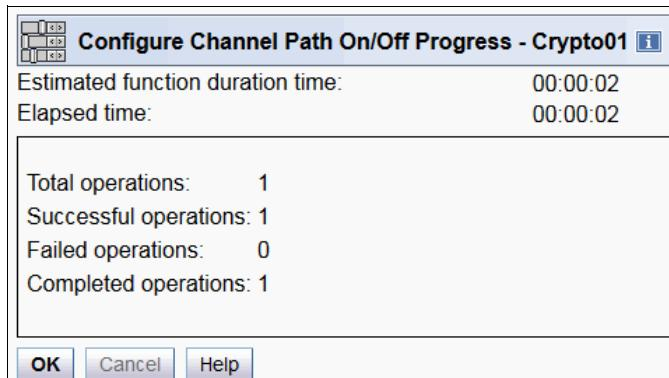

Figure 10-25 Configure On/Off (Standby to Online) completed
8. Confirm that your request is completed (Figure 10-25). Click **OK**.